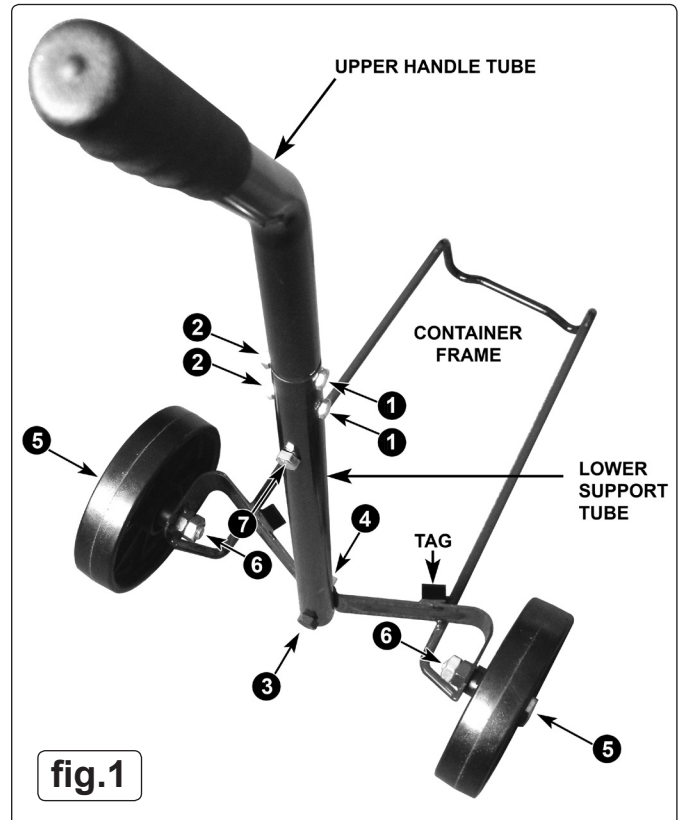

fig.1
Referring to fig.1 take the container frame and attach the wheels to it as follows.
- 3.1.2 Take the lower support tube and fix it to the frame as follows. There is an M10 bolt welded at the base of the tube, see (3) in fig.1. Place the tube into the indent in the container frame with the bolt protruding through the hole in the frame. Pass a washer over the bolt followed by an M10 nut. See (4) in fig.1. Tighten the nut.